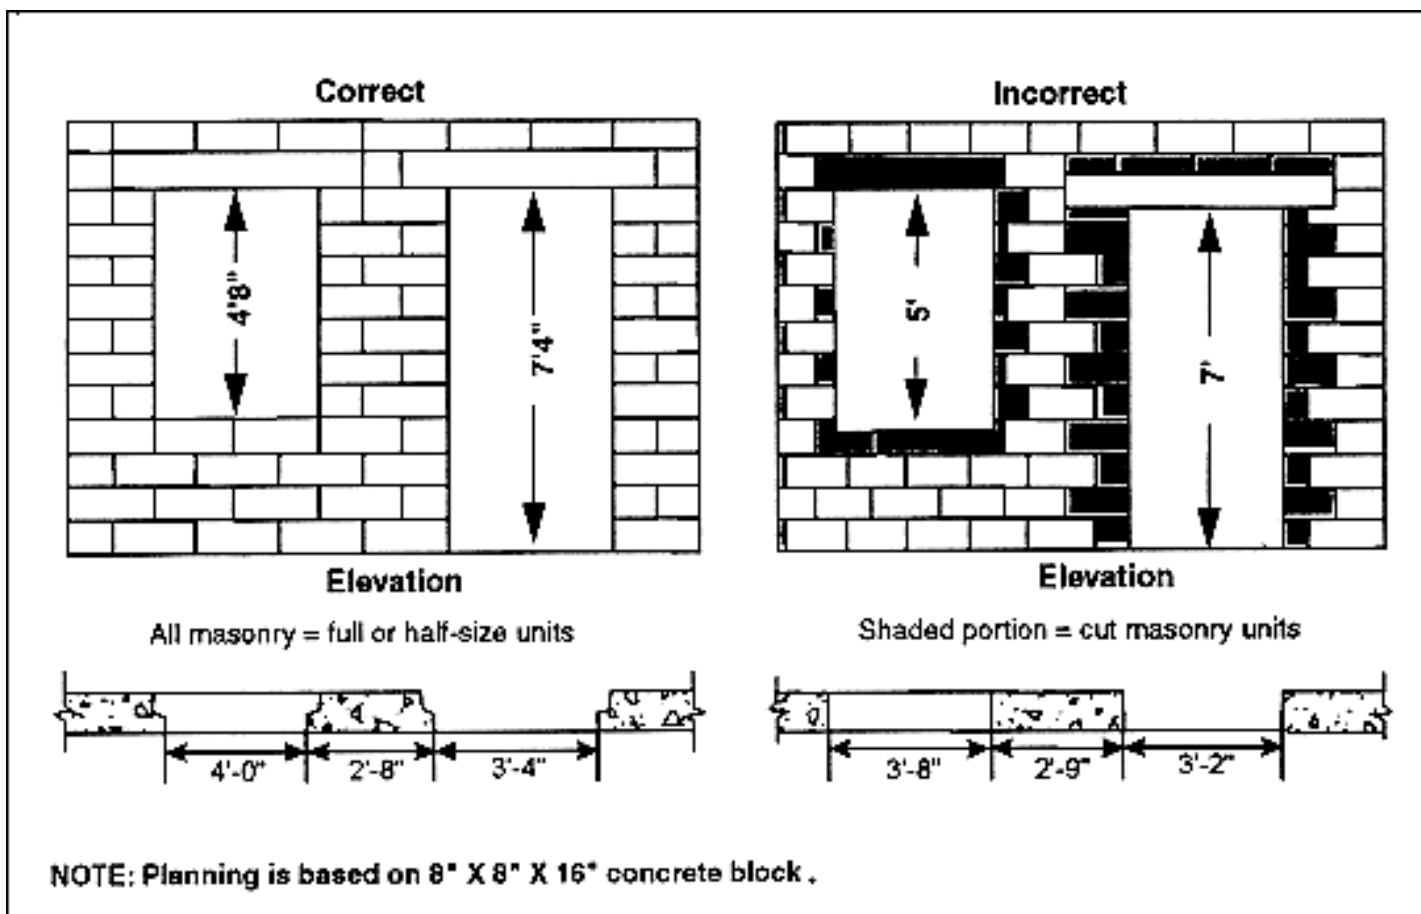

Figure 8-3. Planning concrete masonry wall openings
- Plan the wall length and height, the width and height of openings, and wall areas between doors, windows, and corners to use full- and half-size units as shown in Figure 8-3. Remember that window and door frames must have modular dimensions to fit modular full- and half-size masonry units.